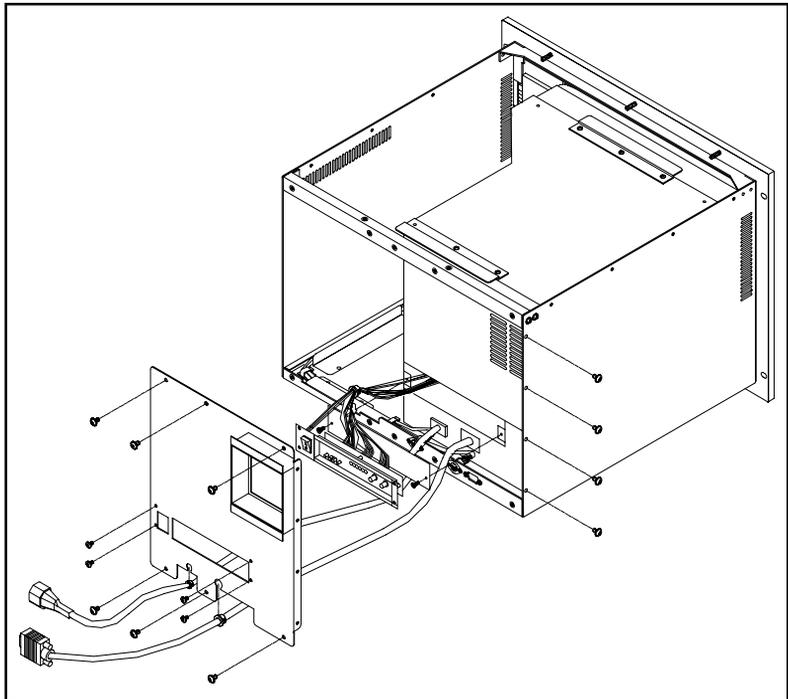

Figure 3-3: Removing the CRT monitor - first steps
4. Unscrew the 29 screws which hold the monitor. There are ten at the rear, eleven on the right, four underneath, and two inside the main chassis. There are also two screws which hold the chassis support bracket that spans between the two side covers. (See Figs. 3-3 and 3-4.)